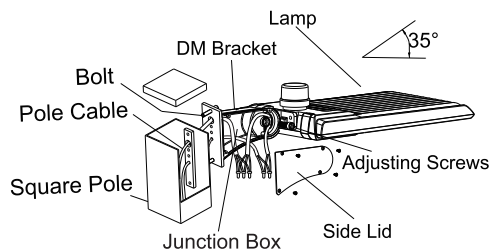

Figure 18
3. DIRECT MOUNTING (DM)
Step 1: Fix DM bracket to square pole with bolt, open the side lid of DM bracket, pull the wire into junction box, and connect the wire correctly. (Figure 18)
Notice: Adjustable angle is 0-35° (Figure 18).